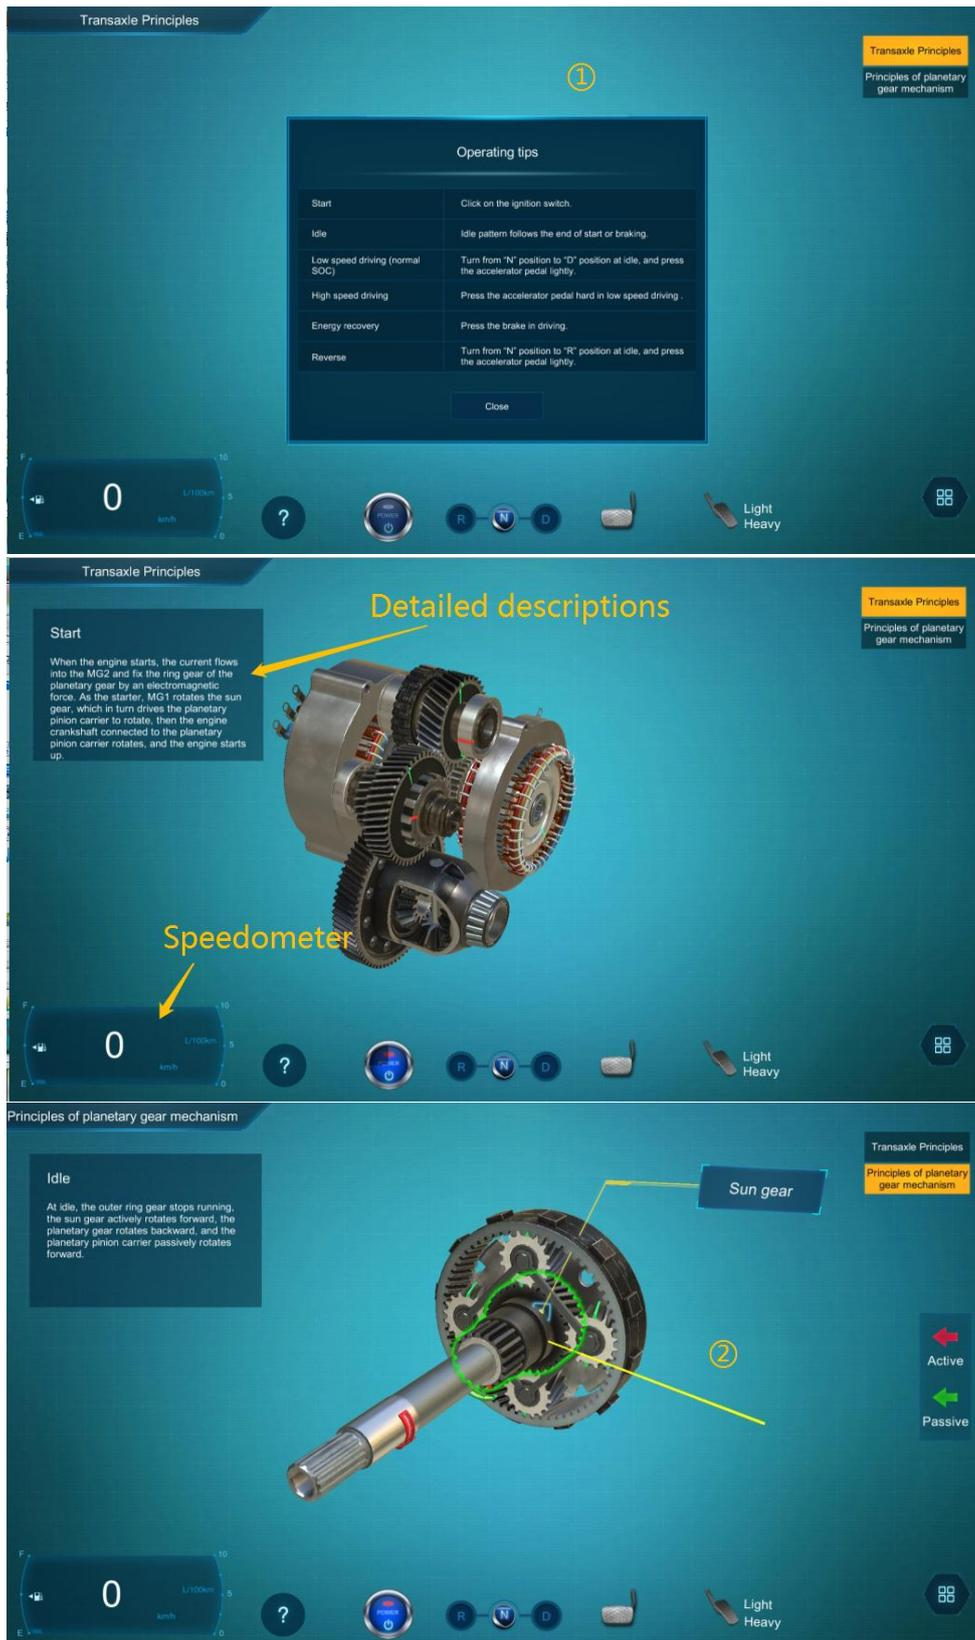

Figure 4-2-10-2 Special instructions for transaxle principles
11. See figure 4-2-10-2 for special instructions.